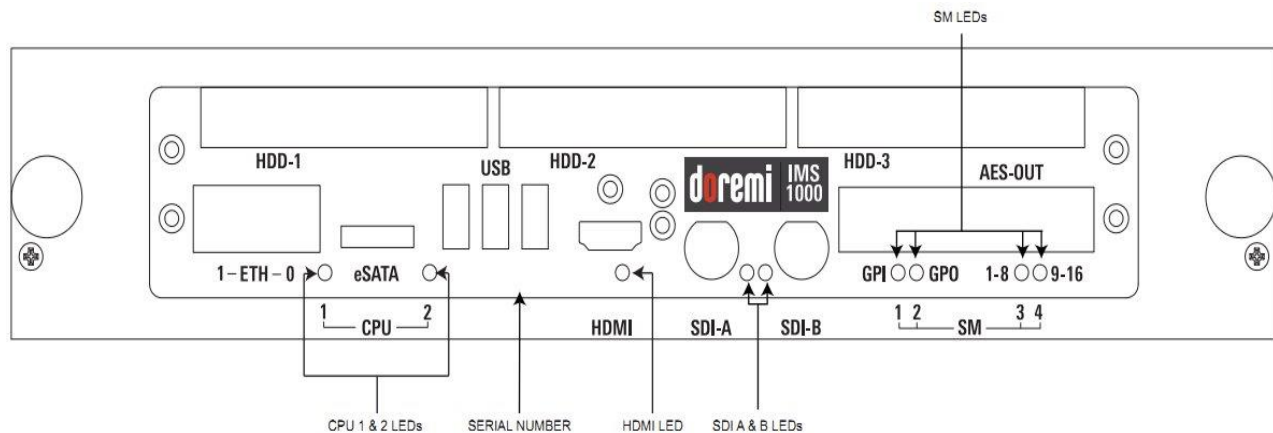

Figure 5: LED Diagram
- See Figure 5 for LED placement.